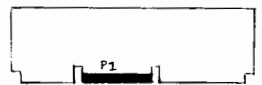

Figure 2
3.0 FUNCTIONAL DESCRIPTION. Refer to the block diagram (figure 1), schematic diagram (figure 2), timing diagrams (figures 3 and 4), component location diagram (figure 5), and parts list (02640-60008) located in the appendix.